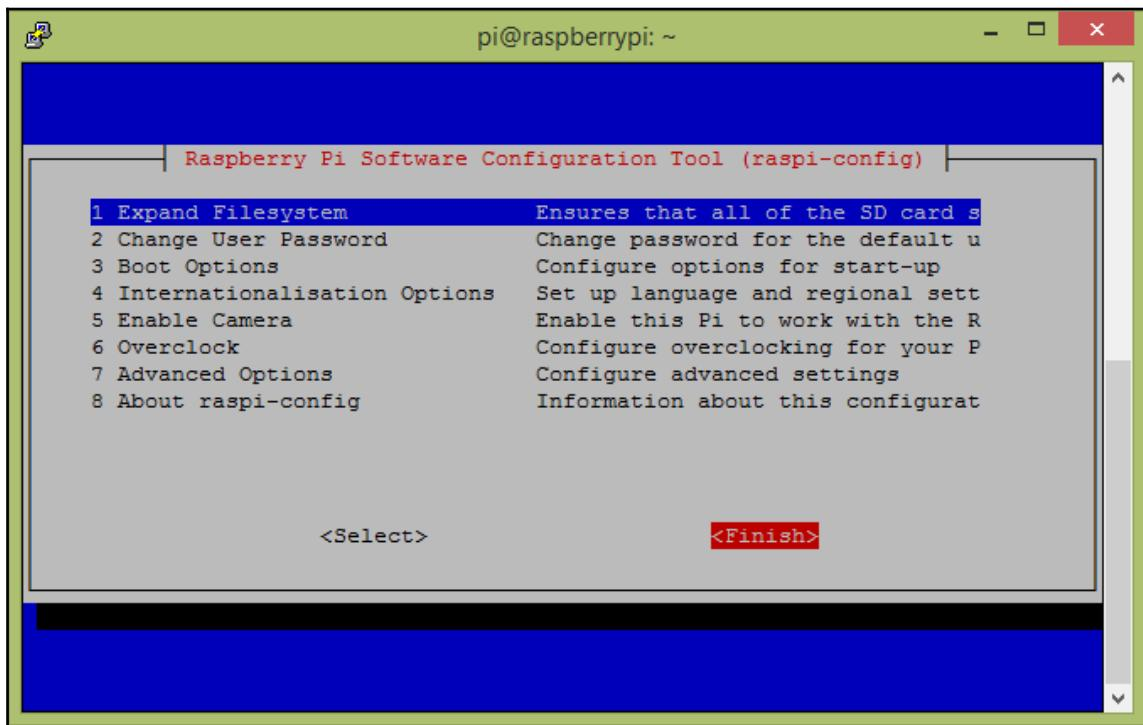

Figure 4-27: Configuration tool window
7. Select <Finish> and press *Enter* to exit the **Configuration Tool** window (Figure 4-27):